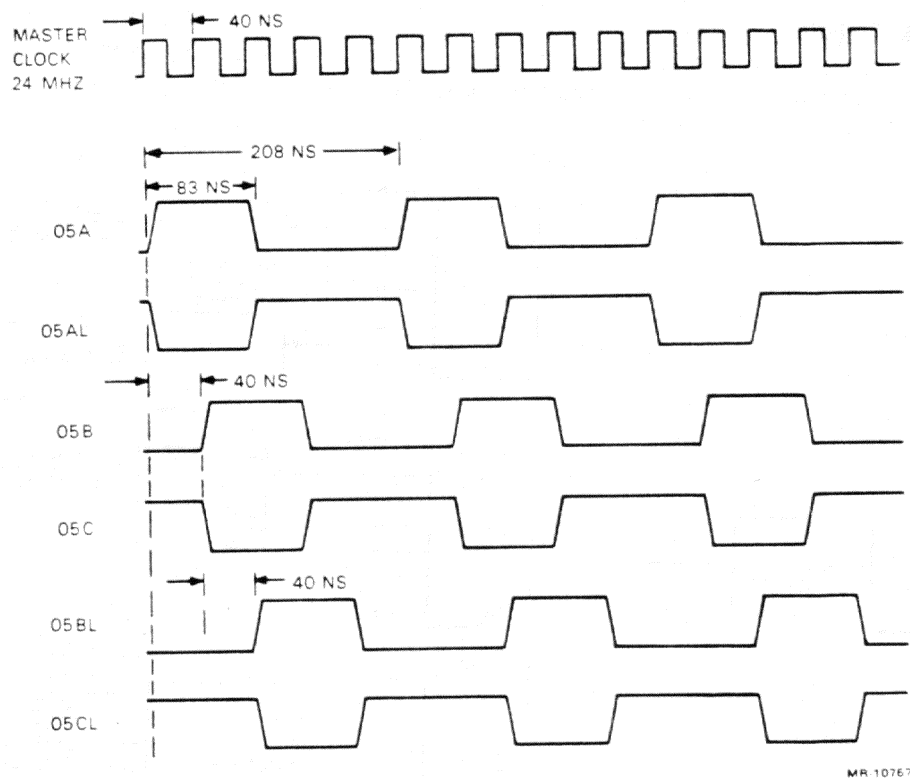

Figure 4-5 8088 Clock Pulses
4.4.2.2 8088 Clock Logic – The 8088 clock logic consists of a 5:1 frequency divider and a TTL to MOS level converter. The 5:1 frequency divider provides three asymmetrical clock pulses (05A, 05B, and 05C) and their complements (05AL, 05BL, and 05CL) at a frequency of 4.815 MHz. The phase difference between the clock pulses is 40 ns. These clock pulses and their complements provide the basic timing for the 8088 and its support logic. The 05A clock pulses are converted to MOS voltage levels, then applied to the 8088 microprocessor. The 05C clock pulses are sent to a 2:1 frequency divider to provide 2.5 MHz clock pulses for the communications/prINTER MPSC and the keyboard PUSART. The 8088 clock pulse timing is shown in Figure 4-5.